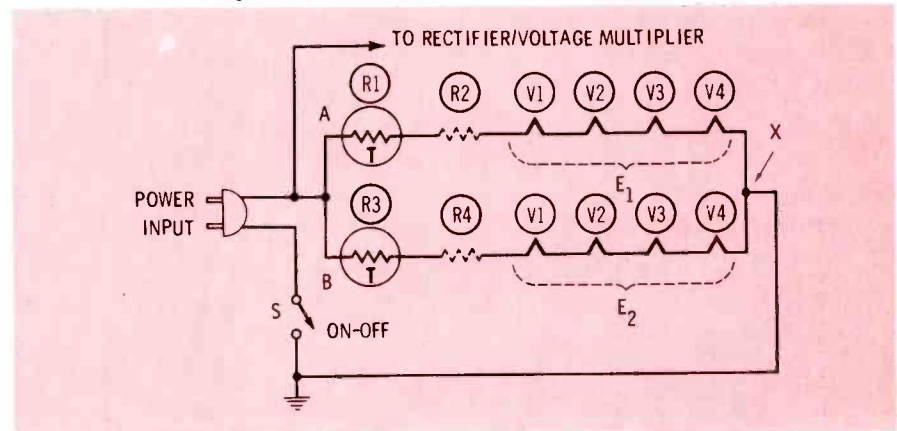

Fig. 2. Split filament circuit with dual thermistor control.
Series-filament circuits are often split into separate legs when (1) the sum of the filament voltages is higher than the line voltage; (2) two different filaments must be grounded because of hum problems, RF considerations, or coupling problems; or (3) more effective regulation is obtained if the filaments are controlled in smaller groups rather than in the full string. A circuit of this type having two legs (A and B) is shown in Fig. 2. Here, thermistor R1 controls the filaments (V1A, V2A, V3A . . . VnA) in Leg A; and thermistor R3 controls those in Leg B (V1B, V2B, V3B . . . VnB). Since the legs are in parallel with each other and with the power line, the total voltage drop across each leg must equal the line voltage. This means that each thermistor must reduce the line voltage to the sum of the hot voltage drops of the filaments in the leg in which it is employed (R1 drops the line voltage to E1 in Leg A, and R3 drops it to E2 in Leg B). When E1 or E2 is significantly lower than the line voltage and the corresponding thermistor is unable to supply the required voltage drop, a fixed resistor (R2 and R4) must be inserted to provide the extra drop. Observe that the filaments of two tubes (VnA and VnB) in this circuit may be grounded at a common point (X) when each of these tubes is hum prone or sensitive to RF pickup.